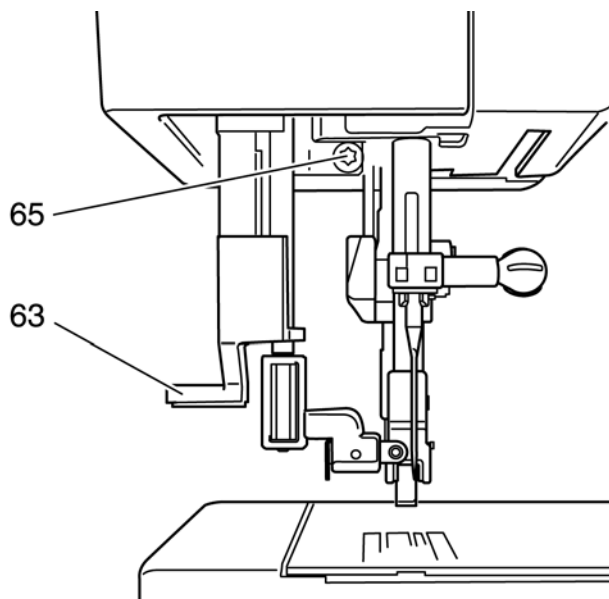

Fig. 44
- Press threader key 63 fully down and hold it in this position (fig. 44).
- Using threader key 63, place threader prong 62 at the front in the needle eye.
- Loosen screw 65 by only 1/8 of a turn (fig. 44).